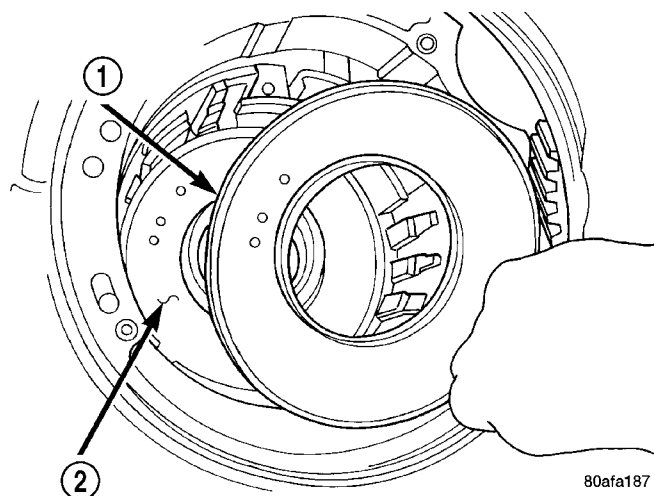

Fig. 87 Install Piston Retainer
(3) Install low/reverse piston retainer (Fig. 87).